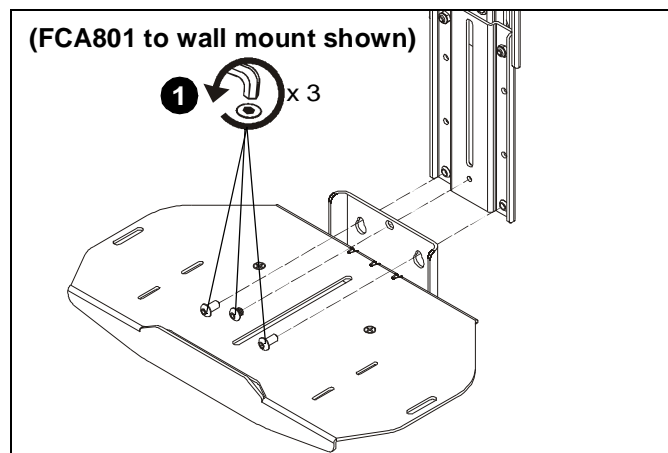

Figure 2
1. If already assembled, disassemble shelf from upright bracket. (See Figure 2)